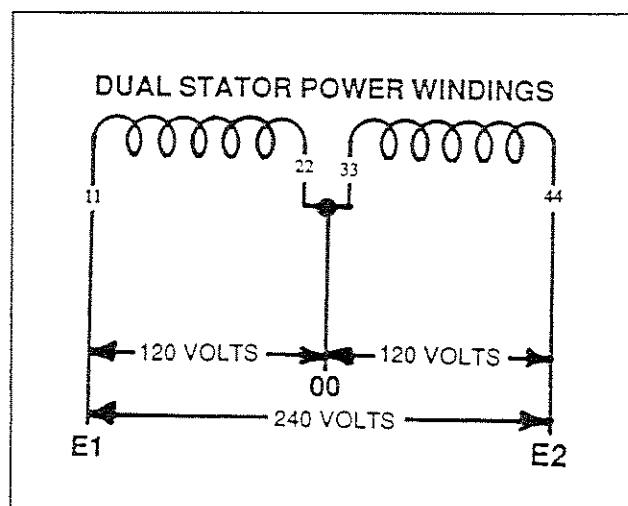

Figure 8. Typical 1-Phase Stator Windings
1. Testing 1-Phase Stators (Figure 8)
- b. Disconnect stator leads 22 and 33 from the neutral block (00).